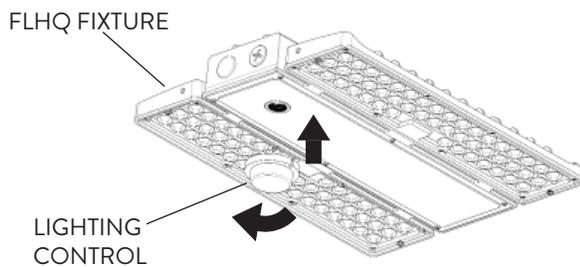

FIG. 23
- 3 Carefully screw the Lighting Control Sensor into the FLHQ fixture (Fig. 23).